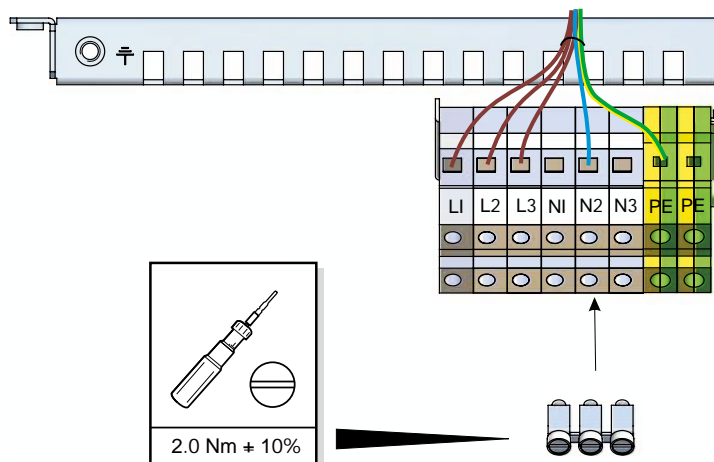

Figure 4-10 AC Input Terminal Block (3-phase)
- 3-phase 110/190VAC or 230/400VAC (Figure 4-10).